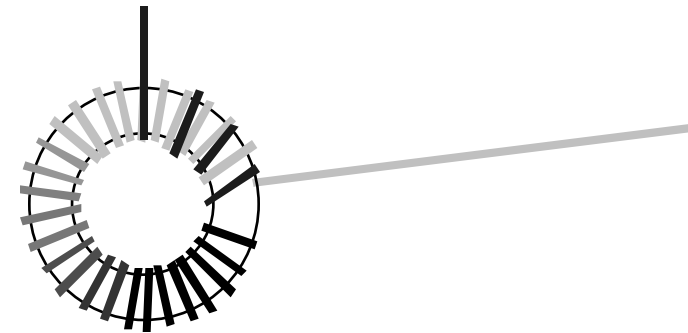
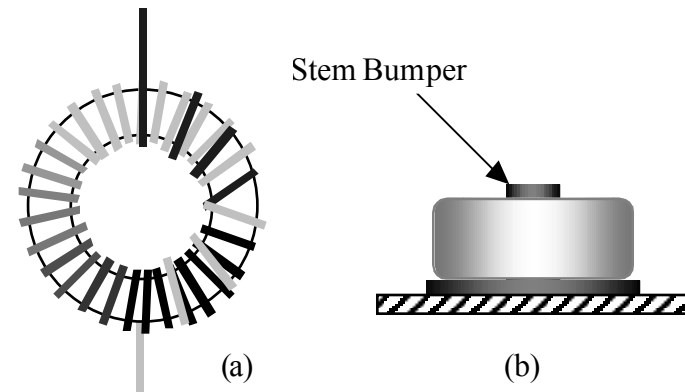

Figure 6-21
Figure 6-22
Three more turns must now be wound with each long lead. The first 3-turn winding is shown in Figure 6-21 (dark-colored lead). The turns should continue in the same direction, *overlapping the opposite end*, and should be wide-spaced. The second 3-turn winding is shown in Figure 6-22 (a) (light-colored lead). The two leads should end up on opposite sides the core.
- Press L33 down onto the stem bumper. See Figure 6-22 (b). The stem should protrude slightly from the top of the core.